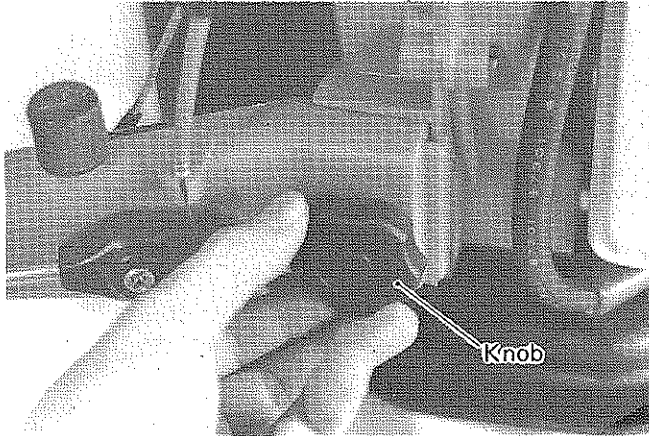

Figure 2
1. Attach throttle lever to the machine. (Fig. 2)